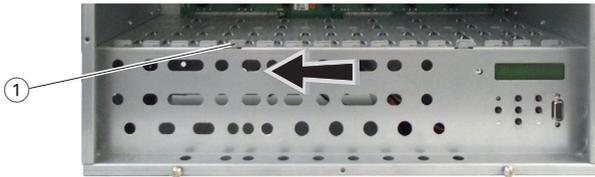

Fig. 17
- Open the locking device ① in the direction of the arrow (fig. 17).